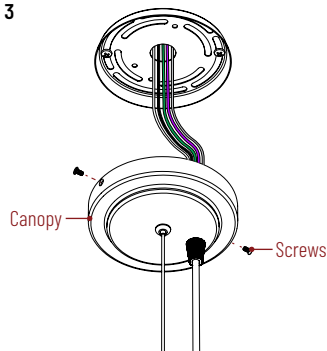

Figure 4
7. Connect CL2 cable from LED driver to Sapphire reflector. (Figure 4)